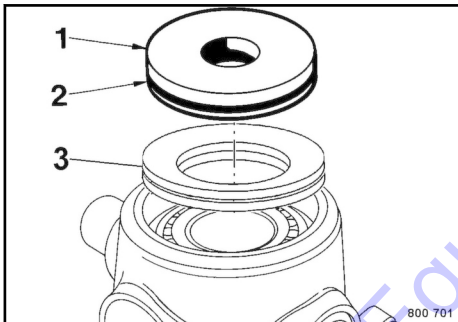

Fig. 203
8. Insert Belleville springs 3 ↗ Fig. 203 with the curvature pointing down.
9. Fit the new O-ring (2) with grease into the disc (1).
10. Install disc (1) into the bearing housing.